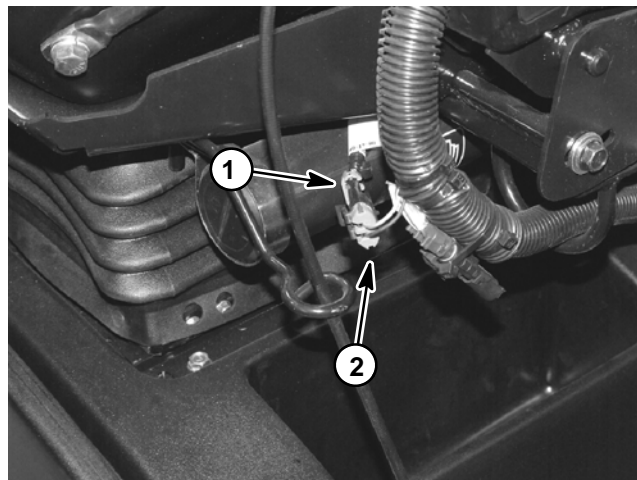

Figure 27
3. Disconnect wire harness electrical connector from the seat switch electrical lead near the operator manual tube under the operator seat (Fig. 27).